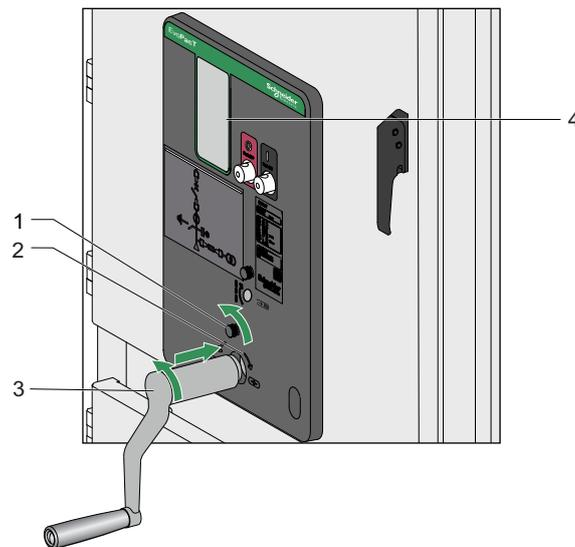

Figure 44
1. Rotate knob (1) counterclockwise and hold it until the flap provides access to the guide. Refer to the Figure 44.
2. Insert truck handle (3) through the opening guide in the door onto the drive shaft of the VCB truck.
3. Turn truck handle (3) counter-clockwise until the truck is racked-out.
4. Remove and place the truck handle (3) back into the transport trolley.
5. Check the position of the truck through the inspection glass (4).